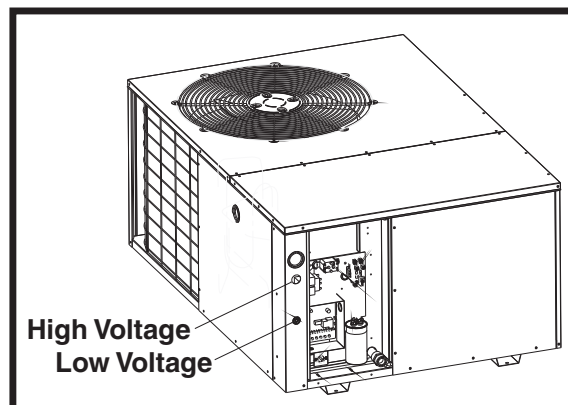

Figure 8. Power Entry
- Connect the line-voltage leads to the terminals on the contactor inside the control compartment. Extend leads through power wiring hole (Figure 8). Connect **L1 & L2** directly to the contactor.